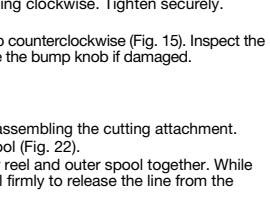

Fig. 24
1. Align the arrows on the SpeedLock™ with the eyelets on the outer spool (Fig. 24).
2. Insert a piece of precut spiral line, P/N 49UFSHLL953, into an eyelet on the outer spool (Fig. 24).
1. While holding the outer spool in place, pull the SpeedLock™ away from the outer spool and twist the SpeedLock™ counterclockwise until it stops. The arrows should align with the eyelets on the outer spool (Fig. 24).